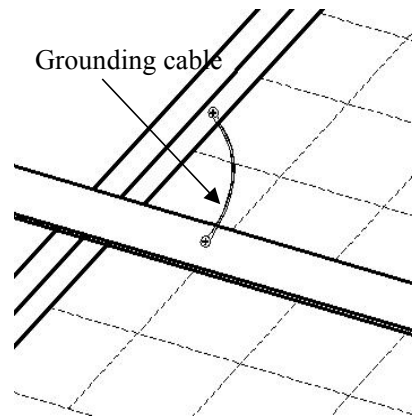

Figure 5 Illustration of grounding
- 3) The modules and support could be grounded to Earth by grounding holes, to enhance the insulation effect. Detailed could find in following Figure 5.